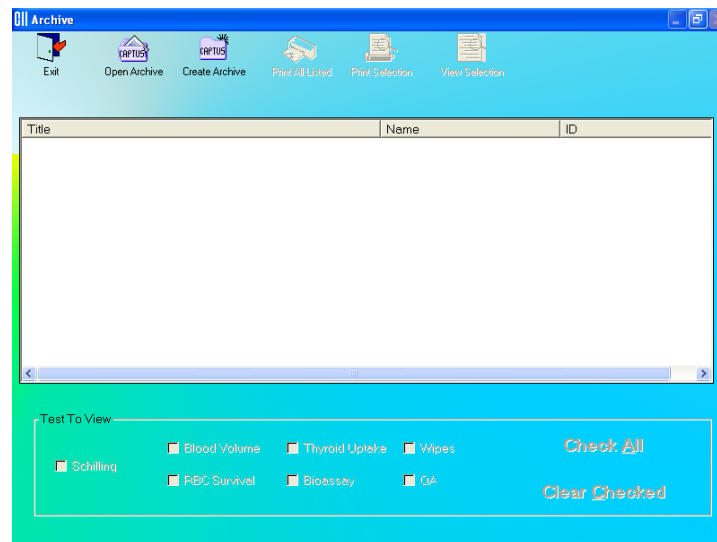

Figure 14-1 Main Archive Screen
To access the Archive module, click the **Archive** button or press *Alt+A* on the CAPTUS® 3000 Main screen. Figure 14-1 Main Archive Screen will appear.
3. Click the  button or press *Alt+S* to create the archive or click the  button to return to Figure 14-1 Main Archive Screen without creating an archive. Once an archive has been created, all the data collected in all the test modules will be saved
under the given file name and folder. After returning to Figure 14-1 Main Archive Screen, archived data will appear in the box.
3. To return to Figure 14-1 Main Archive Screen without opening any file, click the  button or press the *Esc* key.
- To return to Figure 14-1 Main Archive Screen, click the **Exit** button or press *Alt+E*.
- For a quick print of the selection without viewing the detailed report on the screen, click the  icon at the top of Figure 14-1 Main Archive Screen.